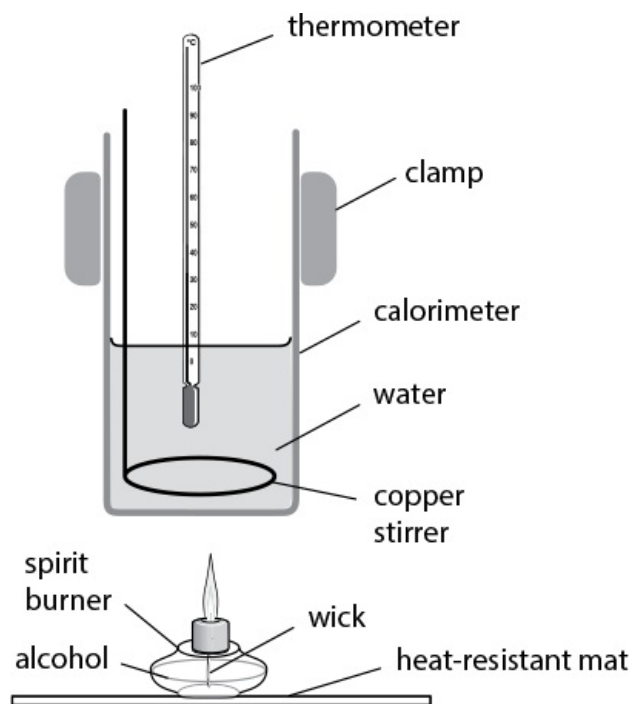

Figure 3.1: Measuring the enthalpy change in an exothermic reaction
- b Clamp the calorimeter so that the flame just touches its base (see Figure 3.1).
5 The experimental set-up should resemble that shown in Figure 3.1.